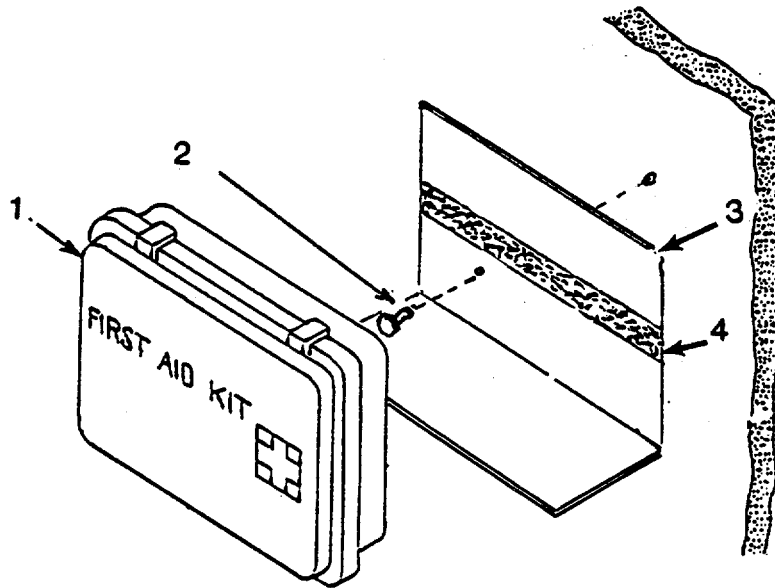

Figure 4-38. First Aid Kit
a. Inspect. (See Figure 4-38.)
- (1) Check first aid kit (1) for security of mounting.
- (2) Check first aid kit contents for inventory and condition.
b. Replace. (See Figure 4-38.)**NOTE**
- (1) Remove first aid kit (1).
- (2) Remove mounting bracket screws (2).
- (3) Remove mounting bracket (3).
- (4) Remove hook and pile fastener (4) from mounting bracket (3) and back of first aid kit (1).
b. Replace. - Continued (See Figure 4-38.)